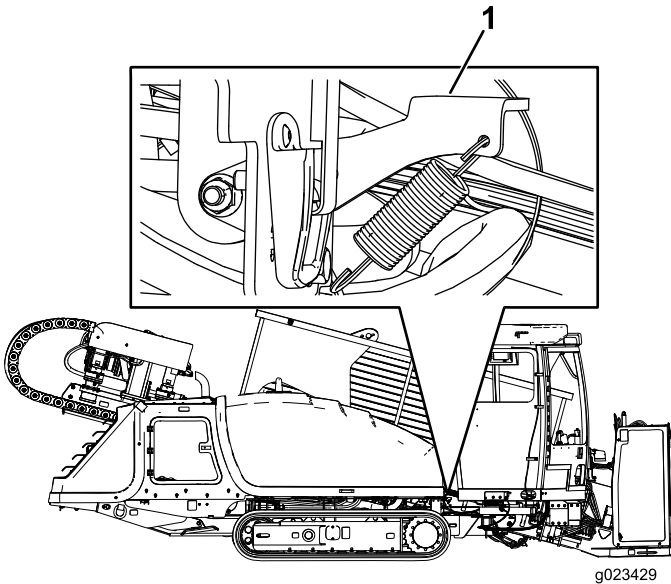
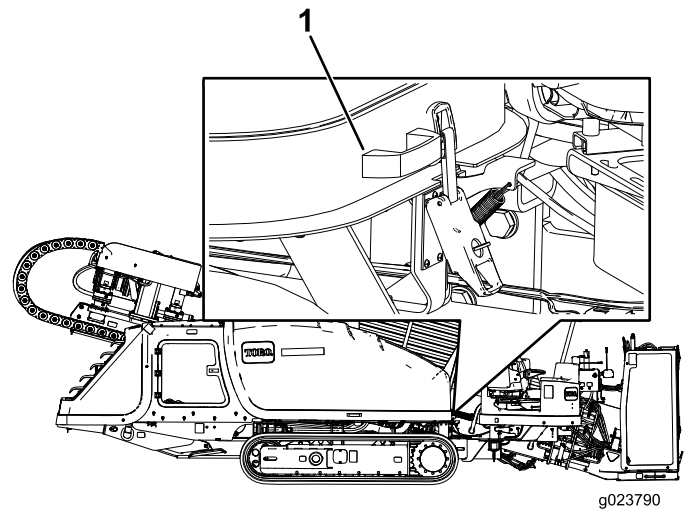

Figure 99
Figure 100
3. Pull up on the hood latch as shown in Figure 99.
4. Keep the hood latch (Figure 99) pulled up, and lift up on the handle as shown in Figure 100.